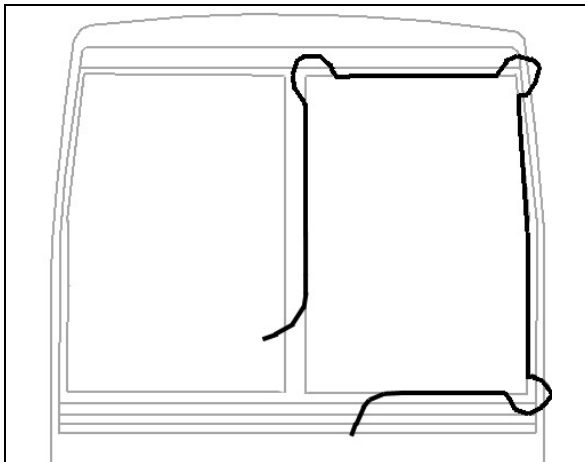

FIGURE 57: WINDSHIELD INSTALLATION USING ROPE
- Insert rope into rubber extrusion leaving enough length at each corner to make a loop. Spray soapy water onto rope and rubber extrusion (Figure 57).